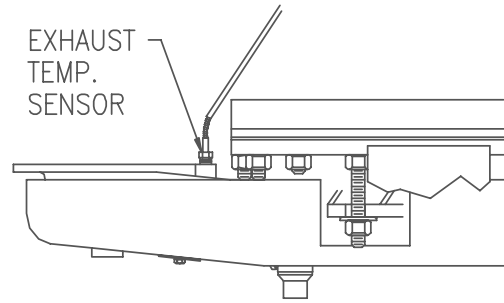

Figure 7.4
12. Disconnect the exhaust temperature sensor by unscrewing it from the exhaust manifold (See Fig. 7.4).